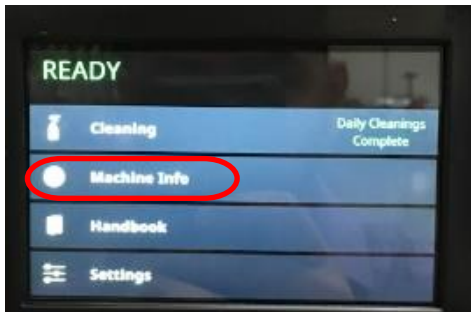

Figure 29a: Home Screen with Machine Info Circled.
- c. Select MACHINE INFO. See **Figure 29a**.